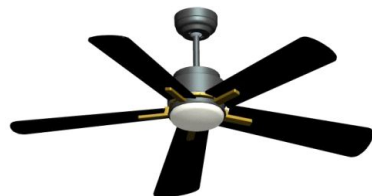

Fig 9.2
9.2 The lampshade installed is shown in Fig 9.2.